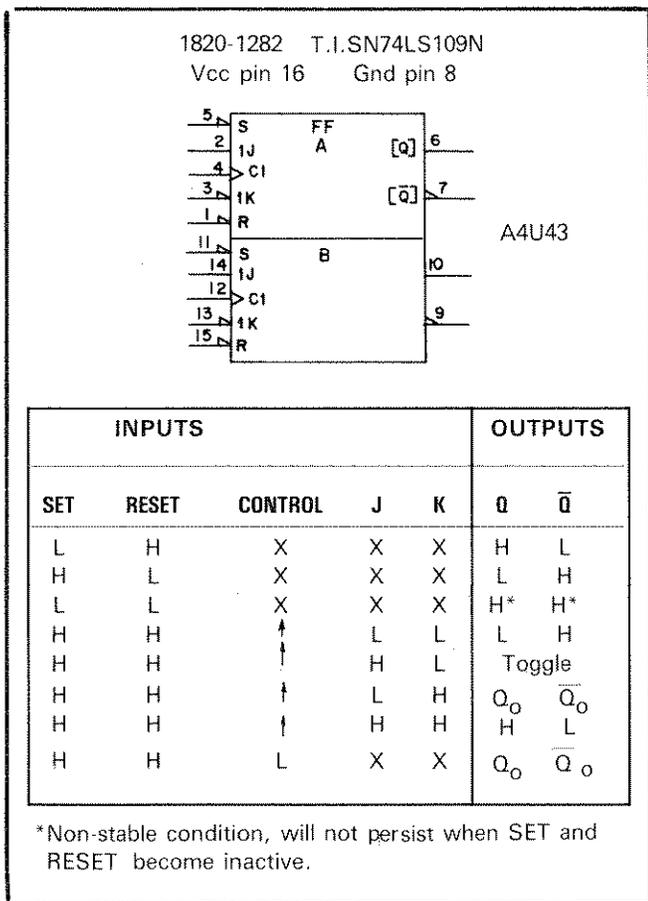

Figure B-17. Dual J-K Flip-Flop
**J-K Flip-Flop.** J-K flip-flops have two conditioning inputs, J and K, which determine the state the flip-flop assumes upon receipt of a positive-going clock pulse, C. In Figure B-17 the J input is active high and the K input is active low.